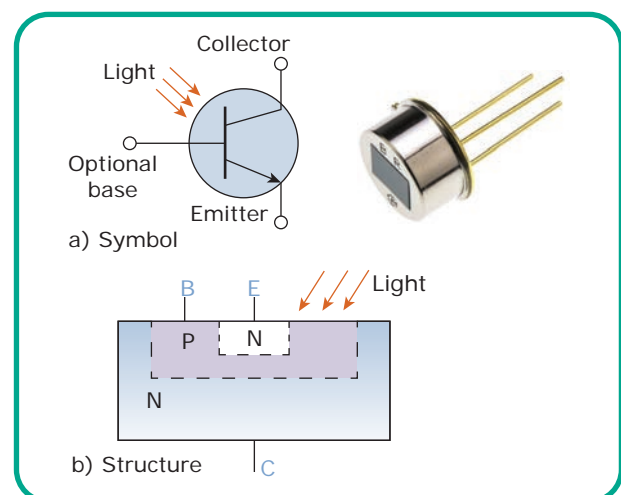

Figure 5.4 NPN Photo Transistor
Figure 5.4 shows the NPN photo-transistor. It is usually connected in common emitter (CE) configuration with base open. A lens focuses the light on the base-collector junction. The modern photo transistor uses efficient light effective materials instead of making a hole and fixing a lens on it. Photo transistor has three terminals, but only two terminals are generally used. Here the base current is supplied by the current created by the light falling on the base-collector junction.